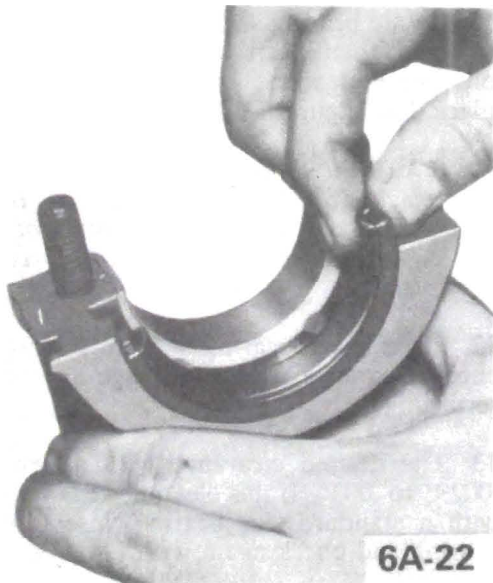

Figure 6A-22 Removing Rear Main Oil Seal (Lower)
2. Remove oil seal from the groove by lifting the end tab then clean seal groove. See Figure 6A-22.